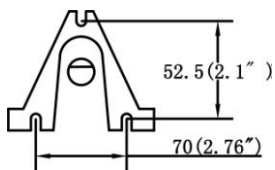

FIG.2
2. Drill three mounting holes according the position of the mounting hole. (FIG.2)